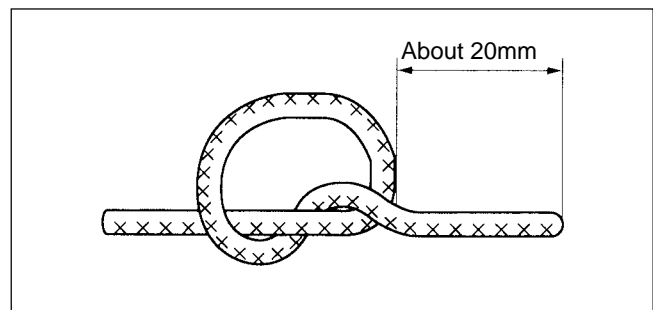

Fig. 10-7
-2: Fasten the rope end. (Fig.10-7)